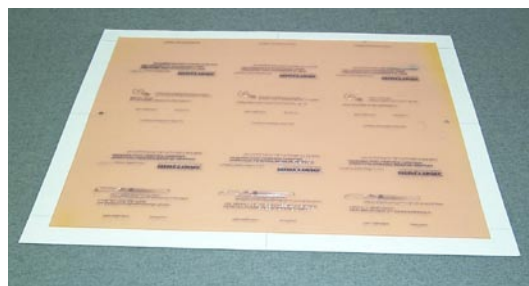

Figure 4-Typical Printing Plate and Matte
Every FlexPrint printer uses photopolymer printing plates affixed to a magnetic-backed mat (Figure 4). The steel construction of the plate cylinder permits easy mounting and removal of these plates.
4. The printing plate (Figure 4) has a magnetic backing (matte) that holds it in position on the steel plate cylinder. If you are removing a plate that is already mounted, grasp the upper corners of the mat, and remove it as shown in Figure 5. There will be some slight resistance from the servomotor.